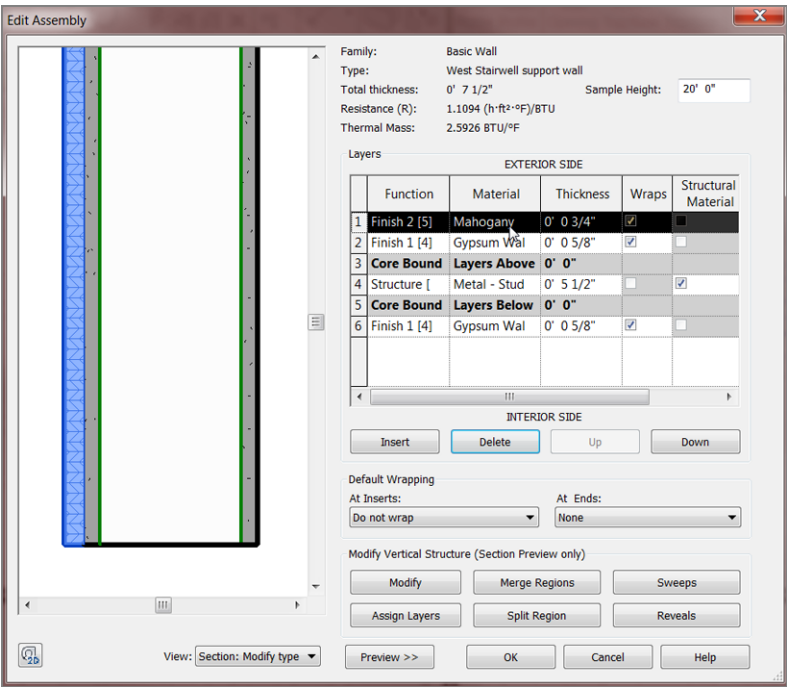

FIGURE 16.5 : Adding the 3/4" (19mm) mahogany veneered plywood material
- 5. Change the Thickness to 3/4" (19mm). Your wall's layers should resemble Figure 16.5.